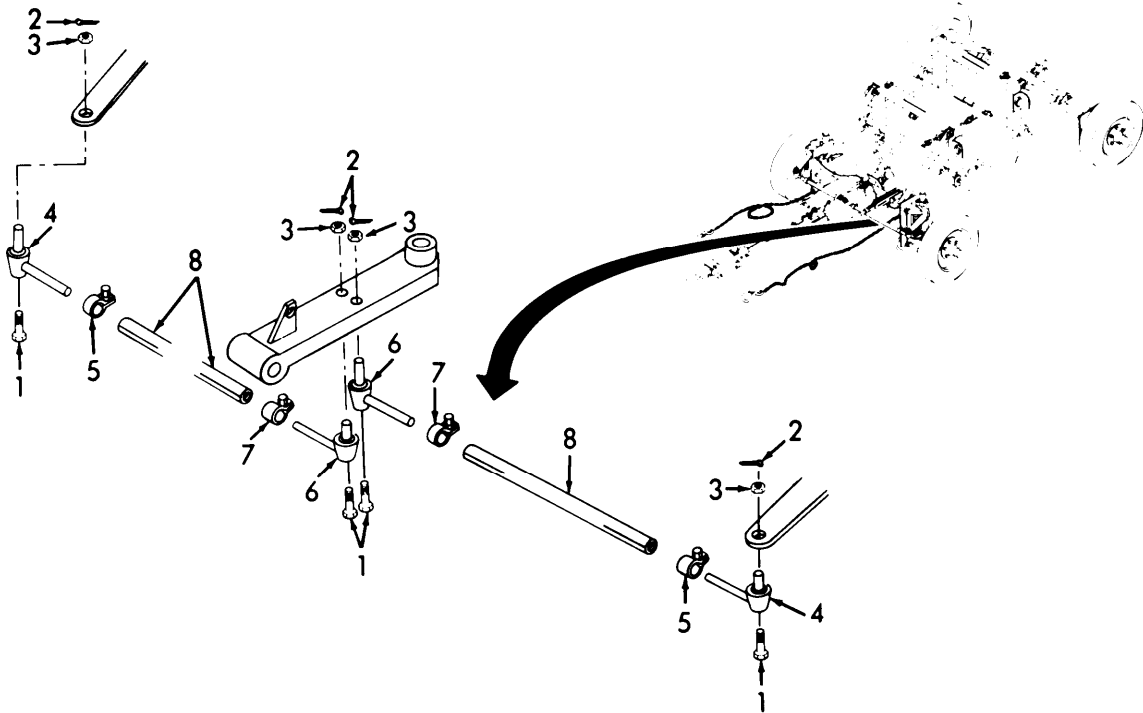

Figure 3-29. Tie Rod Ends, Removal.
- (1) Remove tie rod ends (4, Figure 3-29) and (6).
- (a) Remove four cotter pins (2), four nuts (3), and four bolts (1) from tie rod ends (4) and (6).
- (b) Use spreader tool to disengage tie rod ends (4) and (6) from transporter frame.
- (c) Remove four clamps (5) and (7).
- (d) Remove tie rod ends (4) and (6) from tie rods (8).